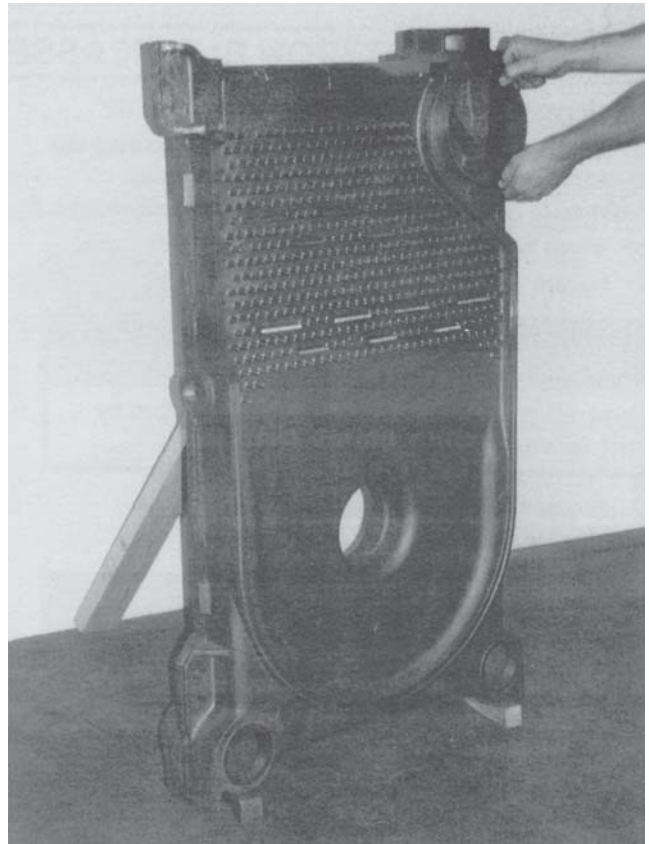

Figure 6: Setting of Nipples
- f. A special nipple setting gauge is provided for the nipples. Gauge nipple in both directions to insure that it is driven to the proper depth into the nipple opening (nipple port). Cut-out in gauge must rest on nipple, with legs of gauge touching finished face of section, when nipple is properly driven. See Figure 6.